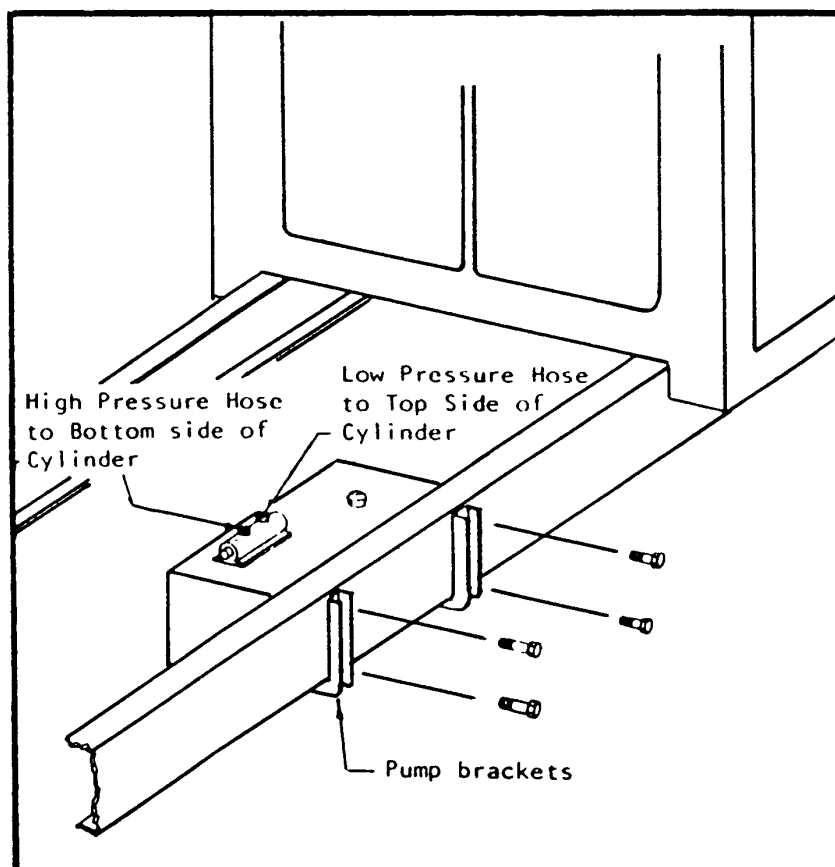
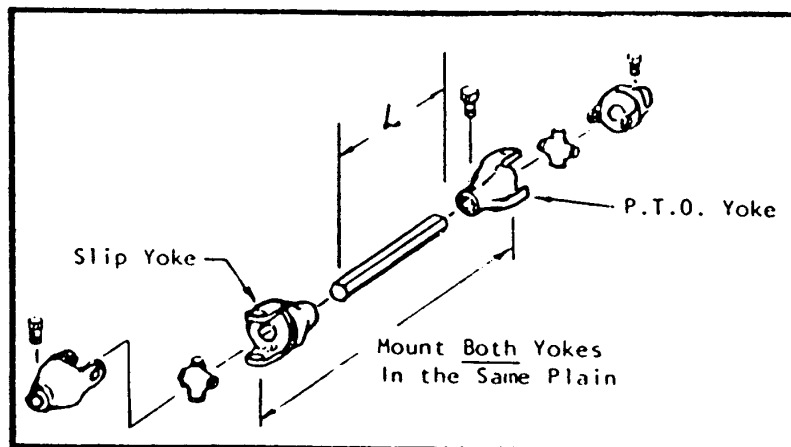

FIGURE 4 - PUMP INSTALLATION
FIGURE 5 - DRIVE SHAFT ASSEMBLY
- 1.a. See Fig.4 , position and bolt each pump bracket to the pump and secure with the 3/8 x 1-1/4" bolts and hex nuts.
- c. Two (2) 17/32" Dia. holes need to be drilled in the pump brackets and truck frame (see Fig.4). Mark the hole locations as close to the truck frame flanges as possible. Drill 17/32" Dia. holes and install the 1/2 x 1-1/2" hex head cap screws with lockwashers and hex nuts.
- b. Determine the exact length "L" of the drive shaft (see Fig. 5). The drive shaft should be kept as short and level as possible.
- d. The two (2) supplied U-joints are not identical, the U-joint with the 1" round x 7/8" hex slip is to go on the pump drive shaft and the 7/8" round x 7/8" hex U-joint (not furnished) or other size - is to go on the truck P.T.O.
- f. Assemble each U-joint to the hex drive shaft and install the drive shaft assembly. After installing, secure P.T.O. U-joint to the drive shaft using 3/8" x 5/8" drilled hex head set screw (furnished). Safety wire all (3) screws to insure that they do not come loose.
3. Hose Connections - (See Fig.4, See 416138 for split pump)